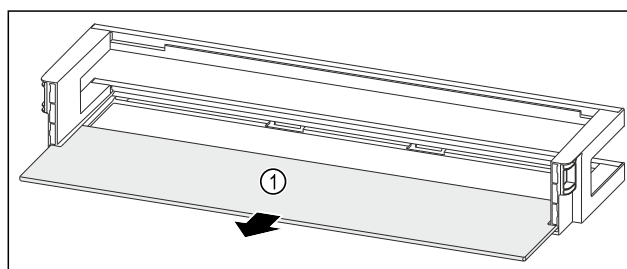

Fig. 131 Door rack with shelf
- Remove the shelf Fig. 131 (1).